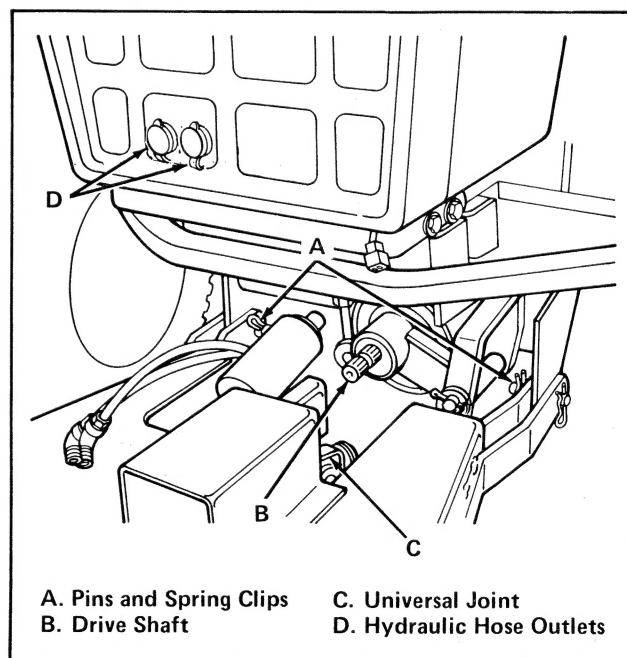
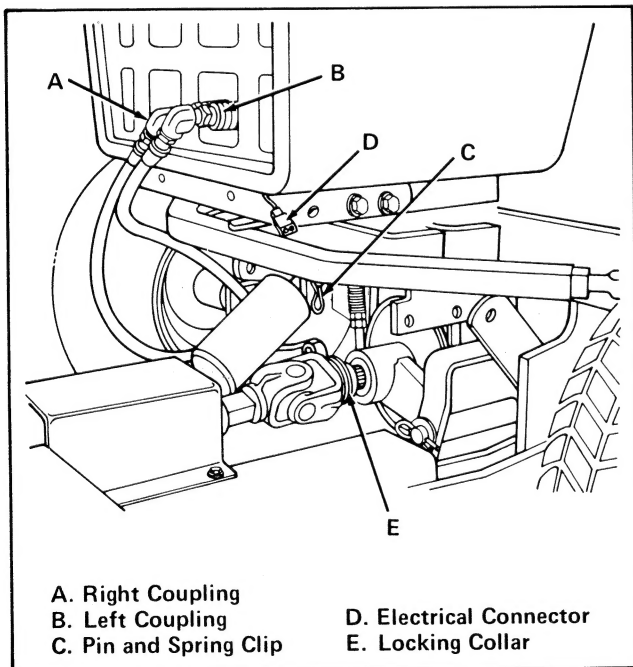
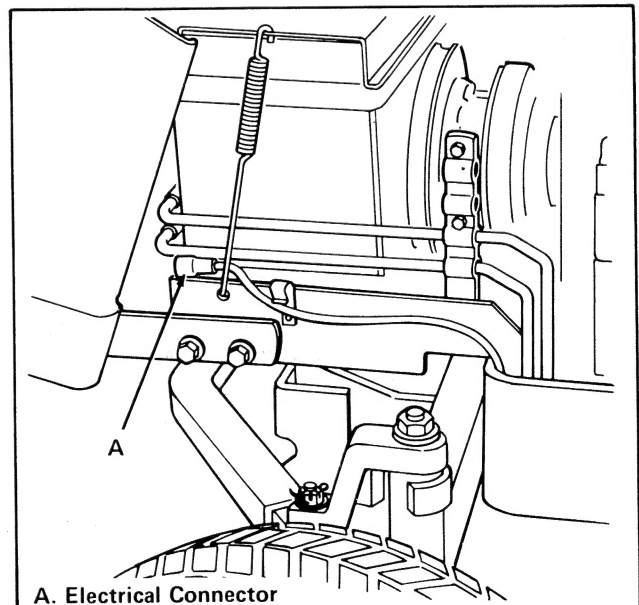

Figure 6. Attaching Pins and Drive Shaft
Figure 7. Completing Installation
Figure 8. Store Electrical Connector
10. Install two pins (item A, figure 6) and spring clips to secure snow thrower to hitch.
14. Connect hydraulic hoses to couplings. Connect hose from free end of cylinder to right coupling (item A, figure 7). To make connection, push outer collar of coupling toward engine and insert fitting at end of hose to coupling. Then release collar and pull to be sure connection is locked. Connect left coupling (item B).
3. Disconnect electrical wiring connector (item D, figure 7) and store it on the tractor (item A, figure 8).
4. Pull the locking collar (item E, figure 7) forward toward the snow thrower to release the drive shaft lock. Then pull forward on universal joint (item C, figure 6) to remove it from drive shaft (item B).
5. Remove spring clip and pin (item C, figure 7) to detach hydraulic cylinder from hitch assembly.
6. Disconnect hydraulic hose couplings from tractor outlets (item A and B, figure 7). Replace plastic covers on both outlets.
8. Remove spring clips and mounting pins (item A, figure 6) to disconnect snow thrower from hitch assembly.